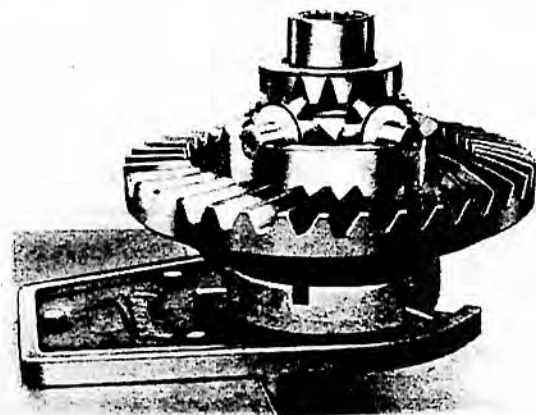

FIG. 23. DIFFERENTIAL CASE ASSEMBLY PARTIALLY DISMANTLED
4. Remove differential gear case setscrews. Lift off right-hand differential gear case, as shown in Fig. 23.